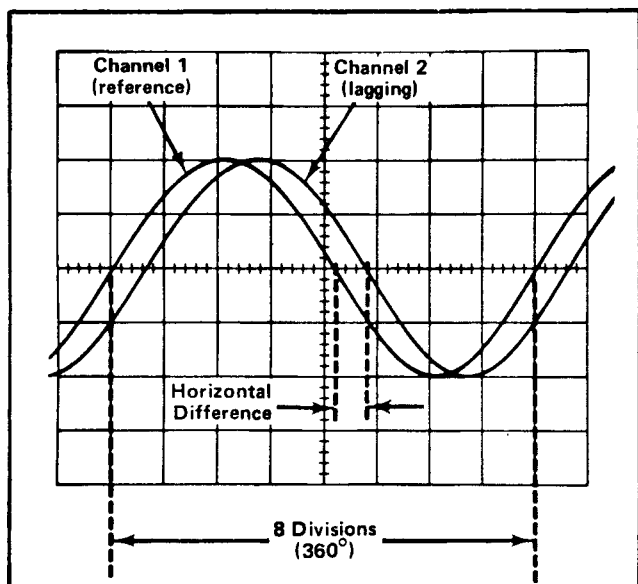
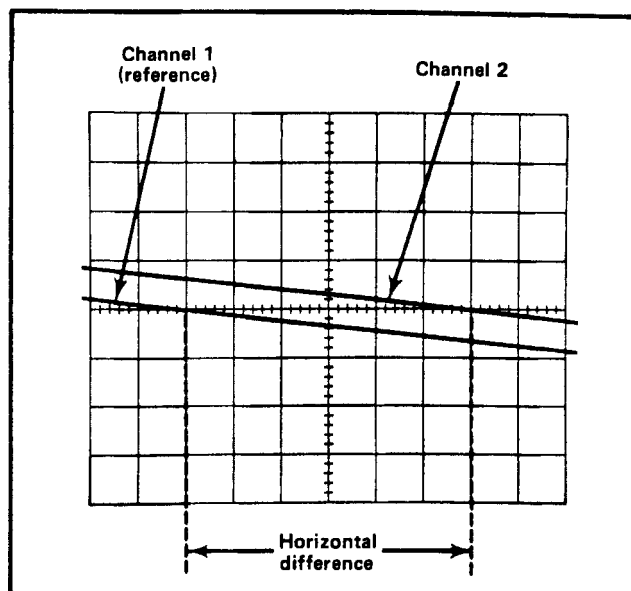

Fig. 2-12. Measuring phase difference.
Fig. 2-13. High resolution phase-difference measurement with increased sweep rate.
10. Turn the Variable TIME/DIV control until one cycle of the reference signal (Channel 1) occupies exactly eight divisions between the second and tenth vertical lines of the graticule (see Fig. 2-12). Each division of the graticule represents 45° of the cycle ($360^\circ \div 8 \text{ divisions} = 45^\circ/\text{division}$). The sweep rate can be stated in terms of degrees as $45^\circ/\text{division}$.
EXAMPLE. Assume a horizontal difference of 0.6 division with a sweep rate of $45^\circ/\text{division}$ as shown in Fig. 2-12.
$45^\circ/\text{division} \div 10 = 4.5^\circ/\text{division}$. Fig. 2-13 shows the same signals as used in Fig. 2-12 but with the MAG switch set for 10X magnification. With a horizontal difference of six divisions, the phase difference is: